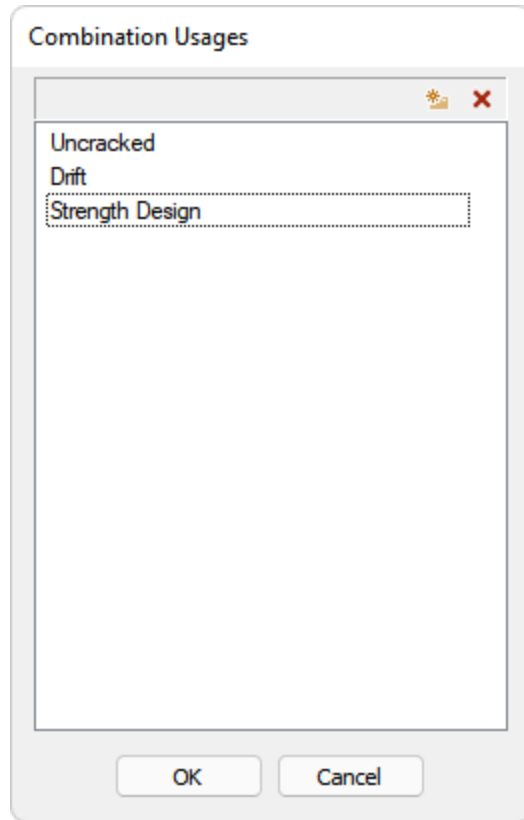

FIGURE 12-2
- Create usage cases **Drift** and **Strength Design** as shown in **FIGURE 12-2**